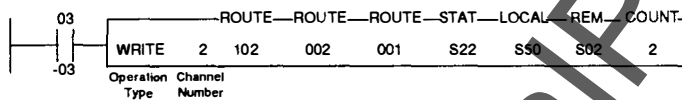

Figure 6-10 - Example WRITE Instruction.
An example of a WRITE operation is shown in Figure 6-10. A WRITE operation copies storage register data residing in the local processor to the specified CM register.
Circuit Operation (Refer to Figure 6-10):
When input 03-03 of the local processor in Figure 6-10 makes the transition from open to closed, the contents of storage registers 0050 through 0051 (the count of two storage registers starting with 0050) in the local processor are copied to registers 0002 and 0003 in the CM. Channel 2 is used for the transmission, and local storage register 0022 contains the message status information. In this example, the local processor is connected to port one of the NIM numbered 02 (ROUTE 102) and the remote CM is connected to port zero of the NIM module numbered 01 (ROUTE 001, CM #001).
5. The possible number of positions in each line of the contact matrix controlling a WRITE operation is reduced by the number of statements used inside the WRITE box. In Figure 6-10, the maximum size the contact matrix could be is 4 x 7 (28 contacts).